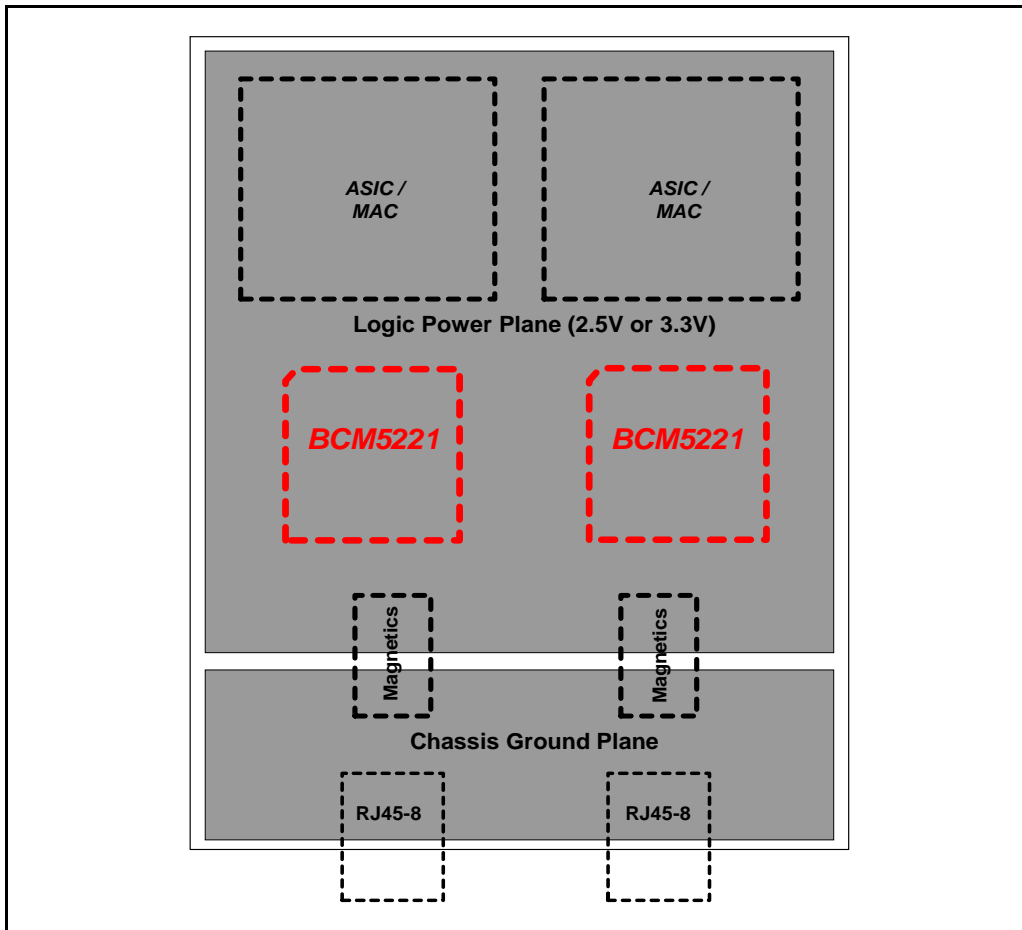

Figure 8: Multiport Power Plane Example
See Figure 8 on page 15 for a simplified illustration of a BCM5221 multi-port power plane layout recommendation.
- Always place power supply filter components as close as possible to the recommended pins (see Figure 8 on page 15) in order to maximize the filtering effects. If a filter component cannot be directly connected to a given power pin with a very short and fat etch, do not connect it via copper trace. Instead make the connection directly to the associated planes with vias.